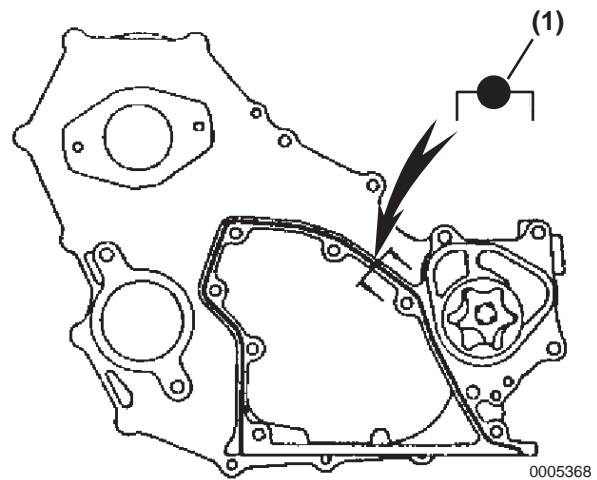

Figure 8-16
3. Apply new seal packing to the timing gear case using a 2 to 3 mm (0.078 to 0.118 in.) sealing width (**Figure 8-16, (1)**). *NOTICE: All parts must be assembled within 5 minutes after the seal packing is applied, otherwise the seal packing must be removed and reapplied. Remove the nozzle from the tube immediately after use and protect it with a cap.*